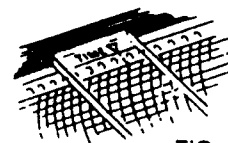

FIG. 8
C. Line up time arrow (see Fig. 8.) with any time line on left of strip chart. This will synchronize the travel chart with the time lines on the chart.